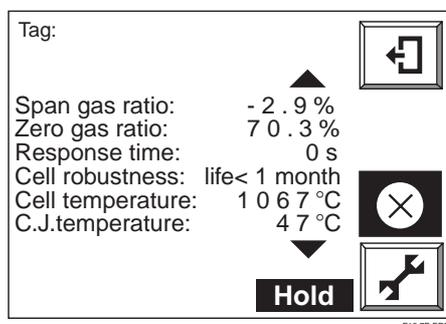

Figure 12.7
- (5) If deterioration of the sensor assembly has occurred abruptly, it may show that the check valve, which prevents moisture in the furnace from getting into the calibration gas tubing, has failed. If the gas in the furnace gets into the calibration gas tubing, it condenses and remains in the gas tubing as condensate. The sensor assembly is considered to be broken for the reason that the condensate is blown into the sensor assembly by the calibration gas during calibration and so the cell cools quickly.
- (6) If the sensor assembly has been gradually deteriorating, check the sensor assembly status in the following procedure:
- Display “Cell robustness” by pressing the ▼ key. A good cell (sensor) will show “Life > 1 year” (Figure 12.7).